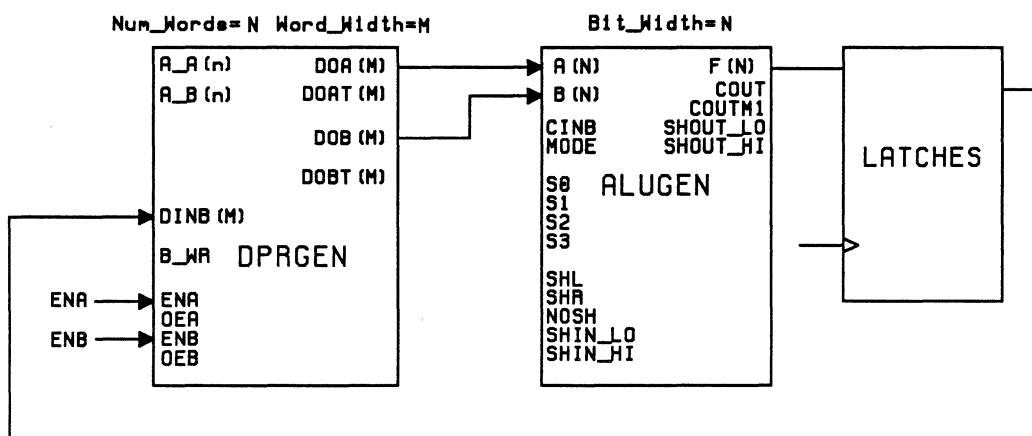

Figure 4 DPRGEN as a register file source for ALU operands
*This generator does not contain such contention logic, so care must be taken to assure correct operation.* The benefit to not including this logic is more flexible operation. For instance, two-port reads can occur from the same address without one port being locked out. This is important for register files, for an example see Figure 4.
In Figure 4, the two operands for the ALU are read simultaneously from the A and B ports of the RAM, and then the ALU result is written back to the RAM through port B on the next cycle. The "PortArw" parameter for this RAM is set to "0" because the A port never has data written to it. There will never be any possibility of port contention because of this. The enable signals for each port can be tied together, which causes a dummy read of port A when the result is being written back through port B, or they can be separated as shown. Tying them together requires less logic to generate the ENA signal, but increases the operating power dissipation.